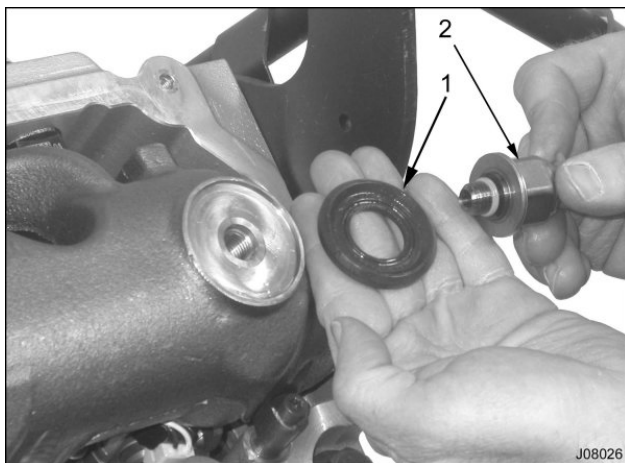

Figure 14
4. Remove injector control pressure sensor (ICP) (Figure 14).